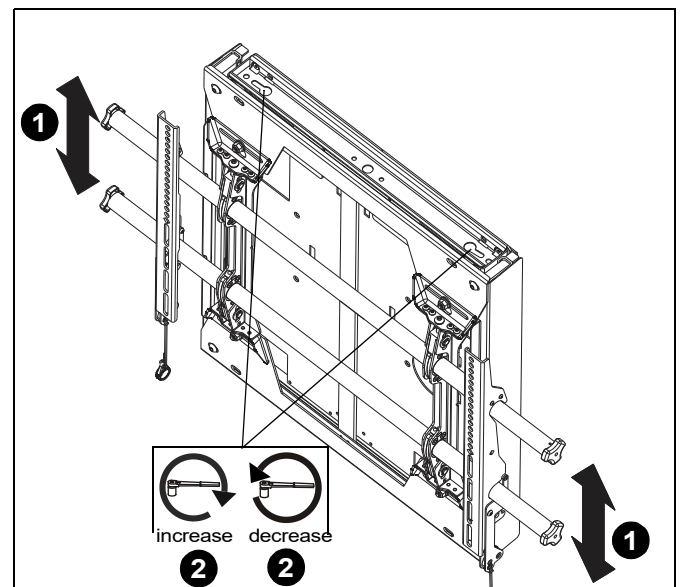

Figure 15
1. Height may be adjusted up or down by manually adjusting height of head assembly. (See Figure 15)
2. Use 1/2" socket wrench to increase or decrease tension. Turn screw clockwise to increase tension and counterclockwise to decrease tension. (See Figure 15)